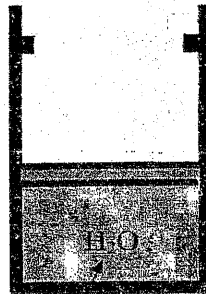

Figure P.9
9. A piston cylinder device shown in Figure P.9 contains 2 kg of water initially at a pressure of 500 kPa with a quality of 20 %. The water is heated until it becomes a saturated vapor. The volume of the system when the piston is at the upper stops is 0.4 m^3 . Sketch the process on P-v and T-v diagrams and determine: [8]